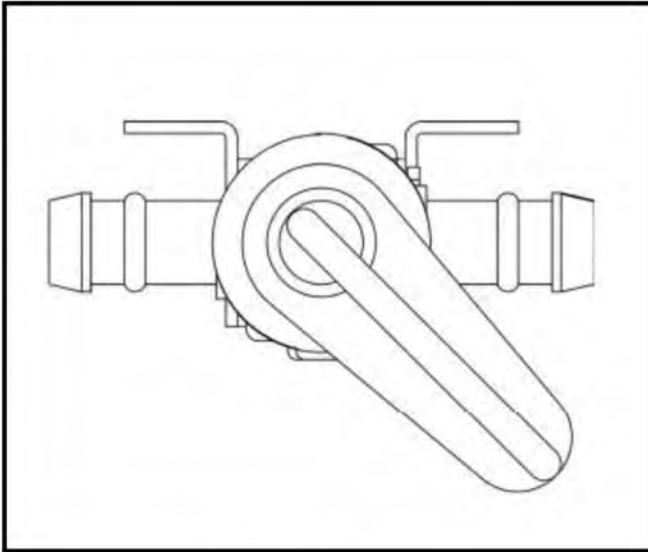

FIGURE 1
1. Move the water valve to the closed position to stop the flow of liquid pesticide. Figure 1.
1. **Water Flow-** To adjust water flow use the water valve to increase the flow of water from the tank. See Figure 1.